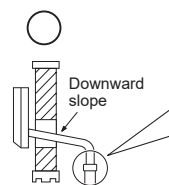

Fig. 2
- The drain hose should point downward for easy drain flow. (Fig. 2)